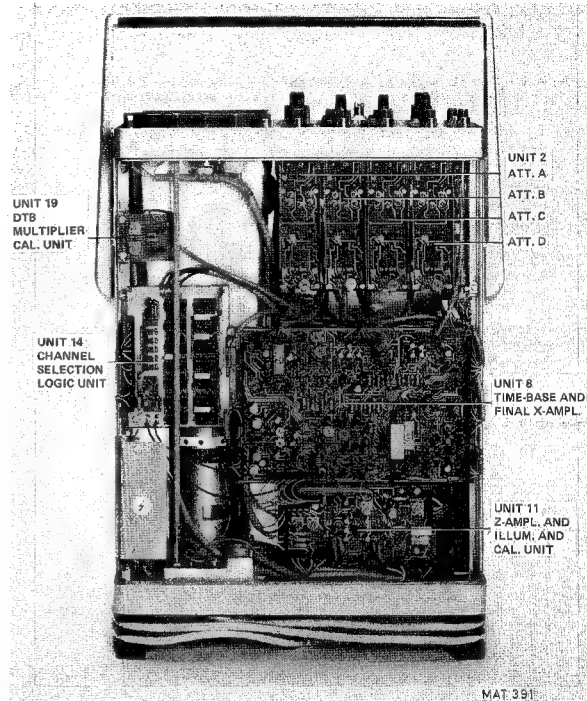

Fig. 3.5. Unit location, bottom view
3.4.4. Removing the attenuator unit (fig. 3.5)
3.4.5. Removing the time-base and X amplifier circuit board (fig. 3.5)
3.4.6. Removing the Z amplifier circuit board (fig. 3.5)
3.4.12. Removing the 1600 V converter circuit board (fig. 3.5)